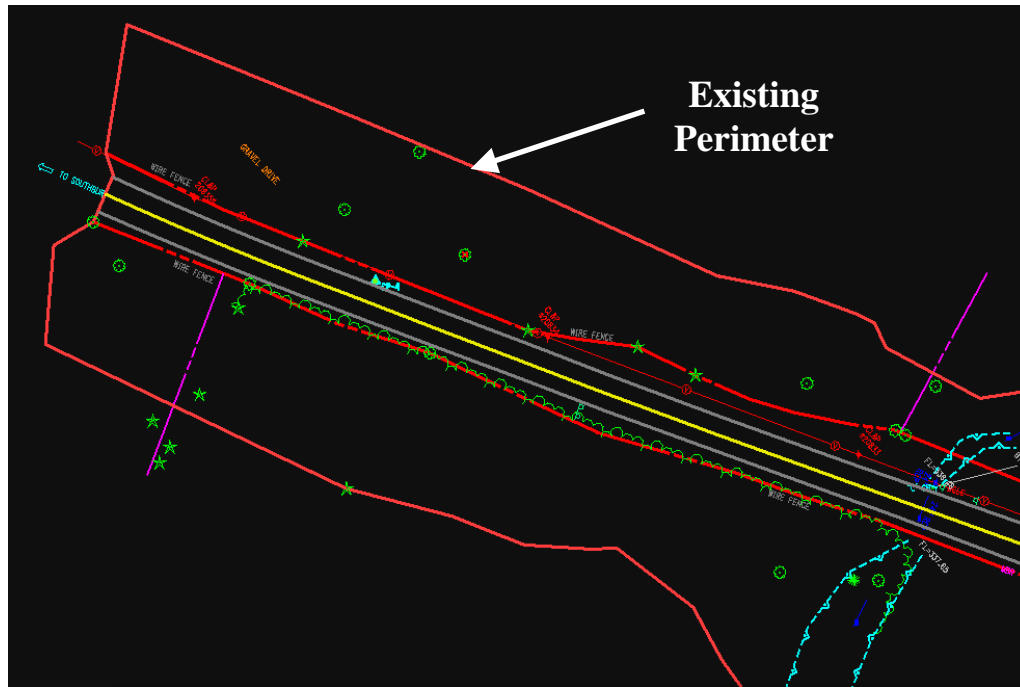

Figure 2-2 MicroStation View of InRoads Generated Perimeter
- D. In the View Perimeter Box for Surface: select **existing**. Then click the **Apply** button. In Figure 2-2, notice the line surrounding the roadway, this is the limit of the existing surface. This represents the extend of the survey data.